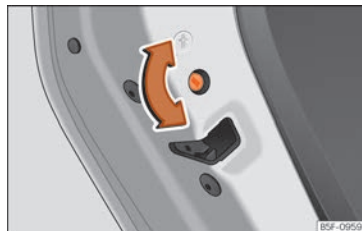

Fig. 85 Childproof lock on the left hand side door.
- With the door open, rotate the groove in the door using the ignition key, clockwise for the left hand side doors » **Fig. 85** and anti-clockwise for the right hand side doors.
- With the door open, rotate the groove in the door using the ignition key, anti-clockwise for the left hand side doors » Fig. 85 and clockwise for the right hand side doors.